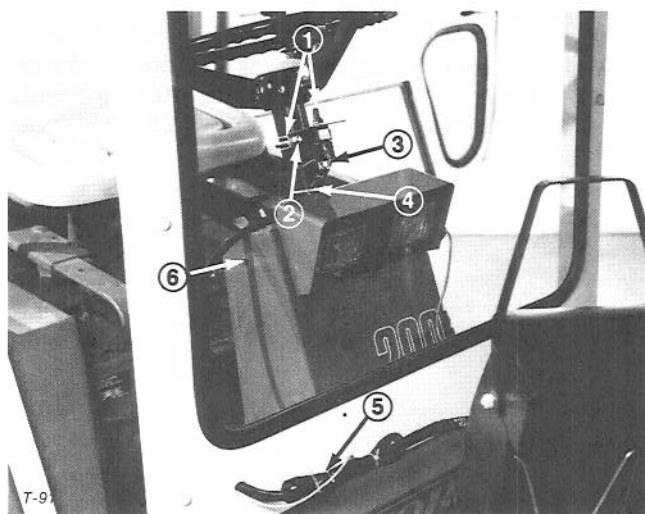

Figure 18
1. Assemble muffler and clamp around steering column, mount switch plate onto clamp and install nut onto left side and eyelet end of black harness wire under nut on right side (Fig. 18).
2. Install female wire harness ends onto switch terminals (Fig. 18). Attach red wire to the center terminal.
3. Secure harness to steering column with tie strap (Fig. 18). Loop any excess harness together and secure with tie straps to keep harness clear of moving parts (Fig. 18).
5. Remove the front wrapper mount screws and remove the front wrapper (Fig. 18).